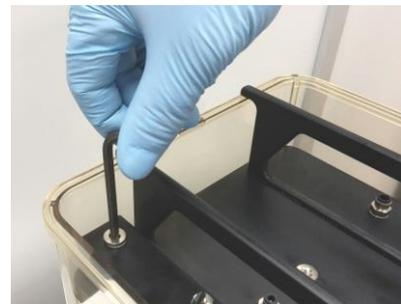

Figure 38: Unscrewing the lid.
- With a #5 Allen key, release the screw in a counter-clockwise direction (Figure 38).